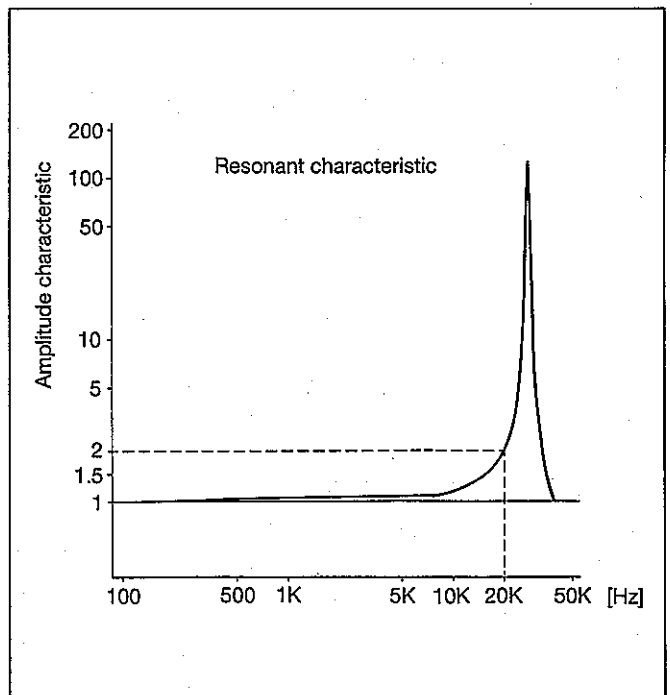

Fig. 4-1
* Before measuring, the user should therefore estimate frequency components of vibration signals to be inputted, find the acceleration level from the amplitude ratio by referring to Fig. 4-1 below, then make sure that the level is below the transducer's safe overload rating.
Example: Suppose that the maximum vibration value of a measuring object is 3000m/s², 21kHz. In Fig. 4-1 the amplification ratio of the acceleration transducer is found to be approximately 2 against a frequency of 21kHz. An estimate of the maximum acceleration level is 3000m/s². The transducer will then be subjected to 6000m/s² (3000m/s² x 2) by resonance. This however remains below the safe overload rating so that the transducer can be used safely.